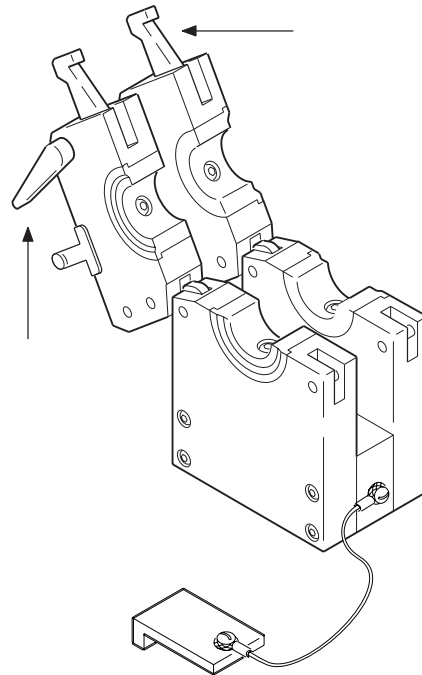

Figure 22 Lever Cam and Latch
6. Check the lever cam and latch for smooth operation. See Figure 22.